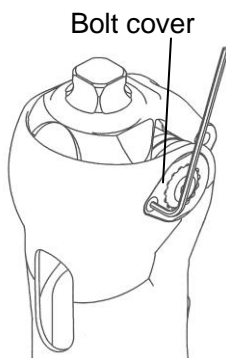

Figure 7.
- 2) Use a 2mm hex wrench to remove the screw bolt and the bolt cover. (See Figure 7.)